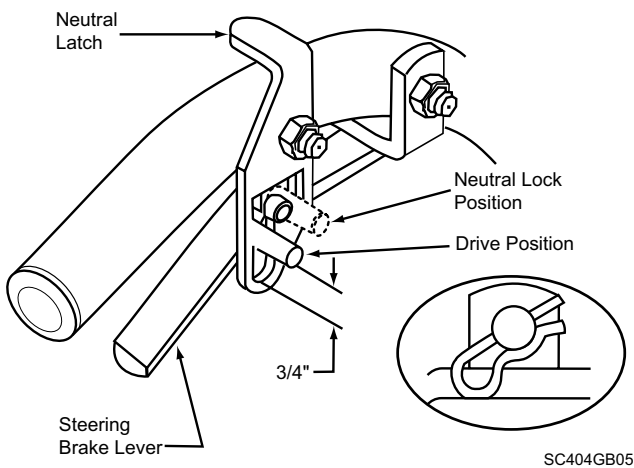

Figure 6-1. Steering Control Rod Adjustment
1. Adjust the steering control rods so that there is approximately 3/4" clearance from the bottom of the rod to the bottom of the neutral latch slot when in the drive position. See Figure 6-1.